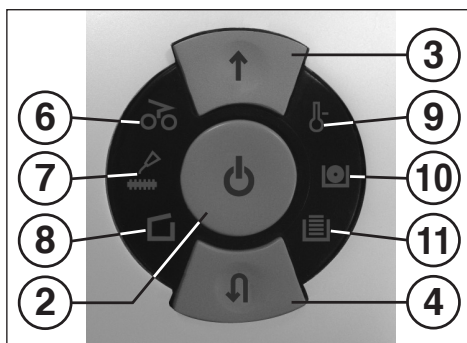

fig. 1
- 2 = Function button (fig. 1) "Ready" / "Off" / "Stop"**
- 3 = Forwards button (fig. 1)**
- 4 = Reverse button (fig. 1)**
- 6 = Control display (fig. 1) "Material jam in machine" / "Simultaneous material feed" / "Light barrier covered when door opens or when machine turned on"**
7 = Control display (Fig. 1)
8 = Control display (Fig. 1)
9 = Control display (Fig. 1)